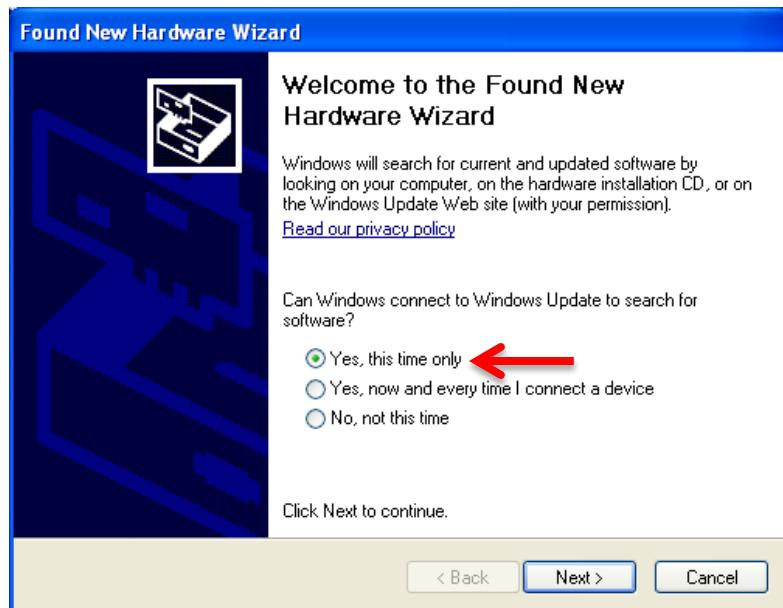

Figure 28: Found New Hardware Wizard
4. If the screen appears as shown in Figure 28, select the option labeled "Yes, this time only. Click "Next" to proceed.